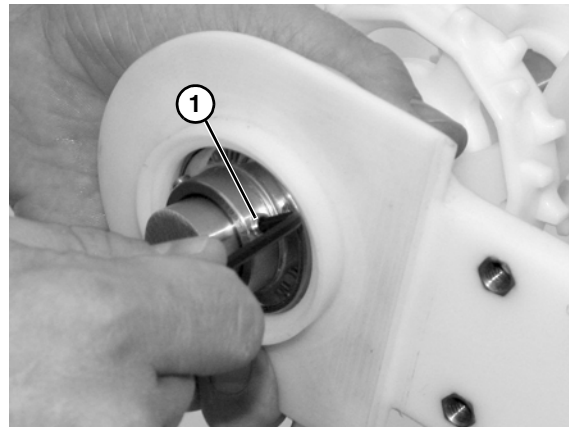

Figure 56
6. Loosen set screws (Figure 56, item 1).